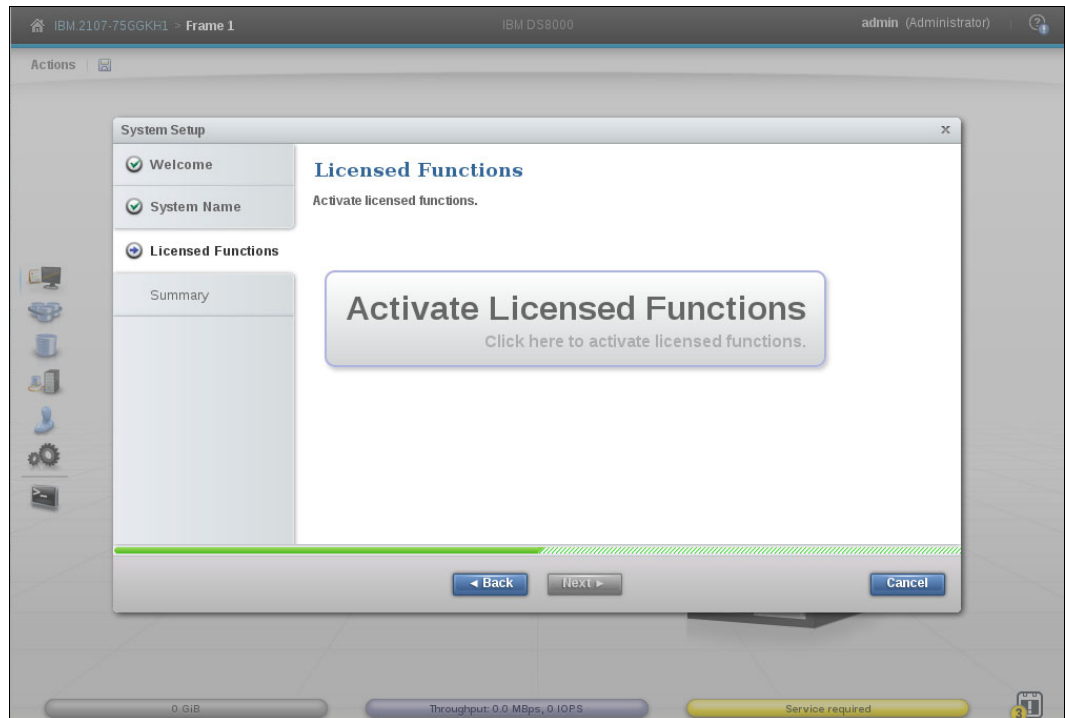
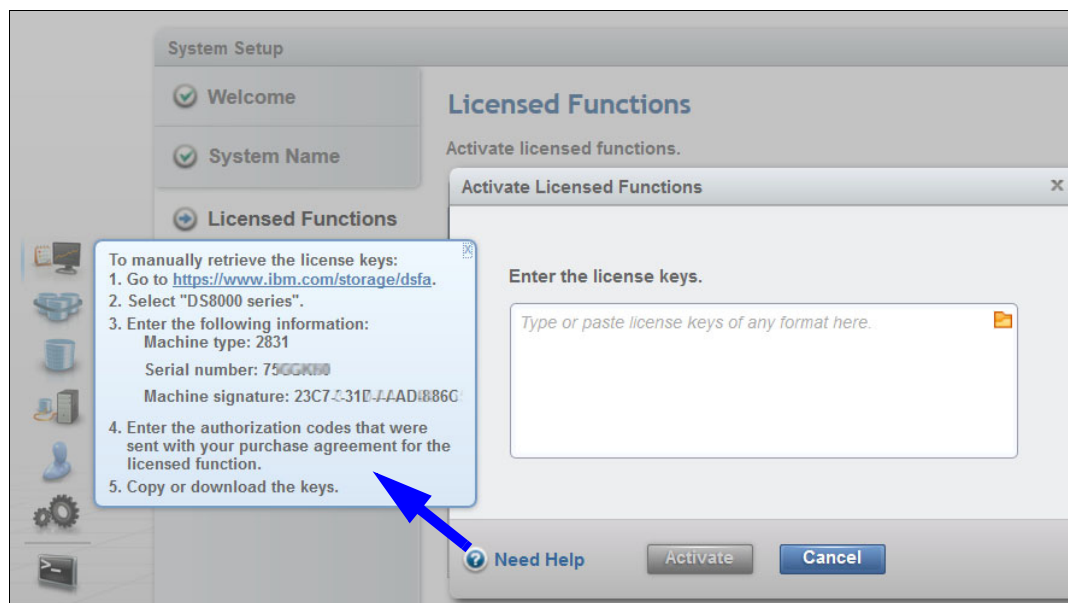

Figure 9-1 Activate Licensed Functions
Figure 9-2 Enter the license keys with help
3. If this machine is new, a System Setup wizard window opens automatically that guides you through the initial setup and configuration tasks, as shown in Figure 9-1.
- Click **Activate Licensed Functions** (on Figure 9-1) to begin the guided procedure to acquire and activate your feature activation keys, as shown in Figure 9-2.
9. Click **Activate** to enter and activate your licensed keys, as shown in Figure 9-2 on page 254.